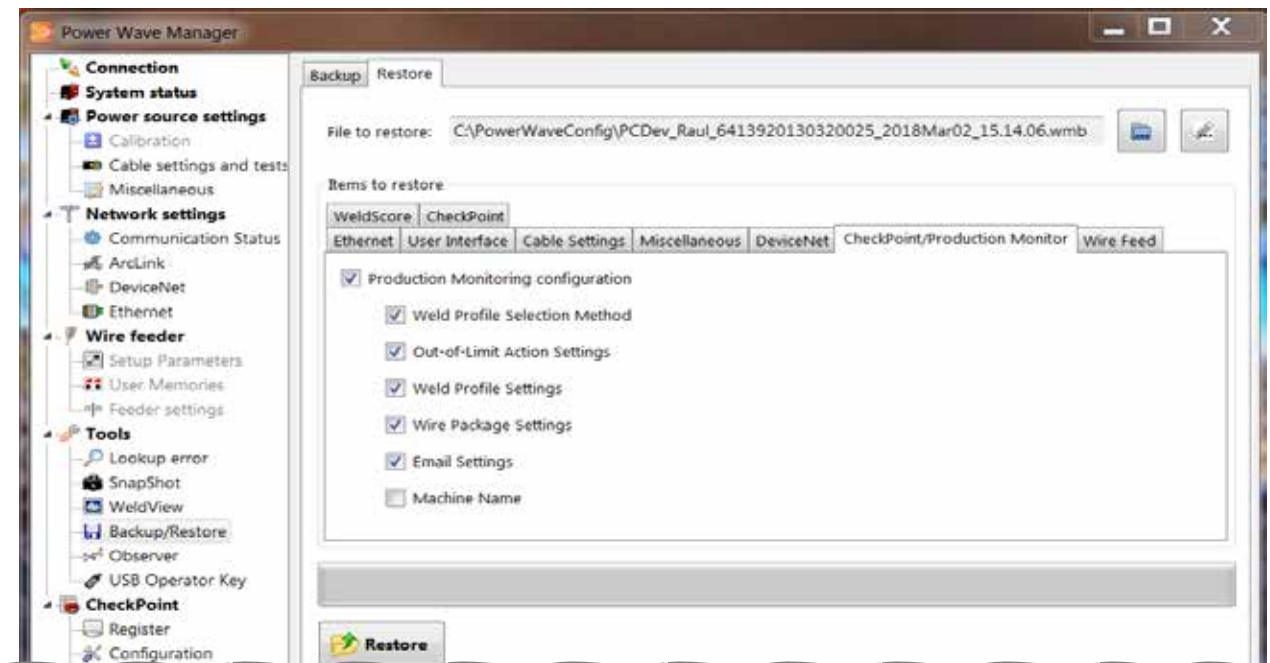

Figure 10.7 Restoring to a Backup File
4. Navigate to and select the backup file you want to load into this power source.	The file extension for a backup file is WMB (Figure 10.7).